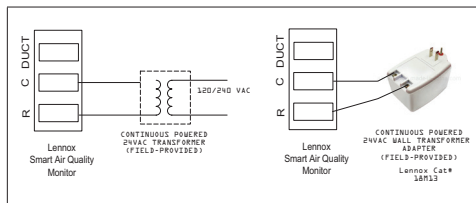

Figure 3. Separate or Plug-in Transformers
- The additional transformer might be a secondary transformer or a wall plug ("Figure 3. Separate or Plug-in Transformers").